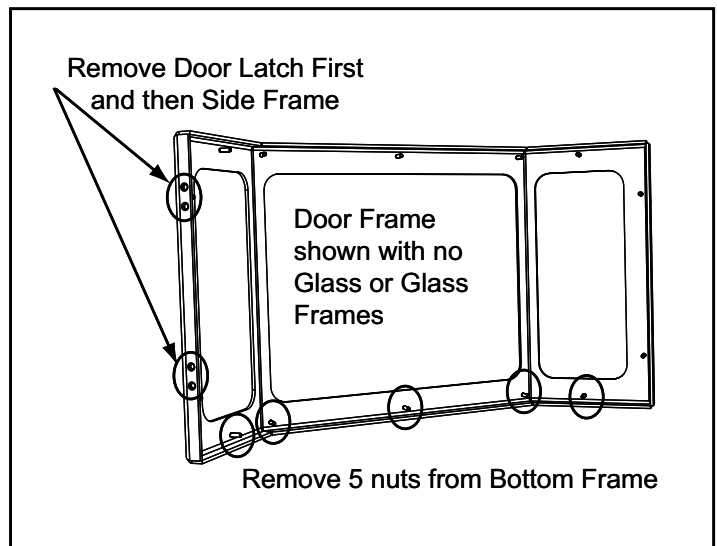

Figure 34.2
1. Using a nut driver remove the (5) bottom nuts and remove the bottom glass frame. **Figure 34.2.**